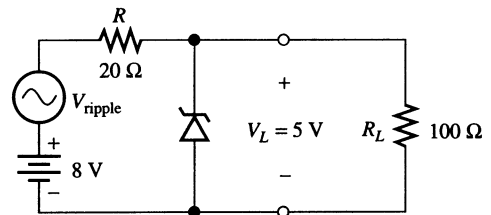

Figure P3.60
3.60. Consider the voltage regulator circuit illustrated in Figure P3.60. The ac ripple voltage is 1 V peak to peak. The dc load voltage is 5 V. What is the Q -point current in the Zener diode? What is the maximum dynamic resistance allowed for the Zener diode if the output ripple is to be less than 10 mV peak to peak?